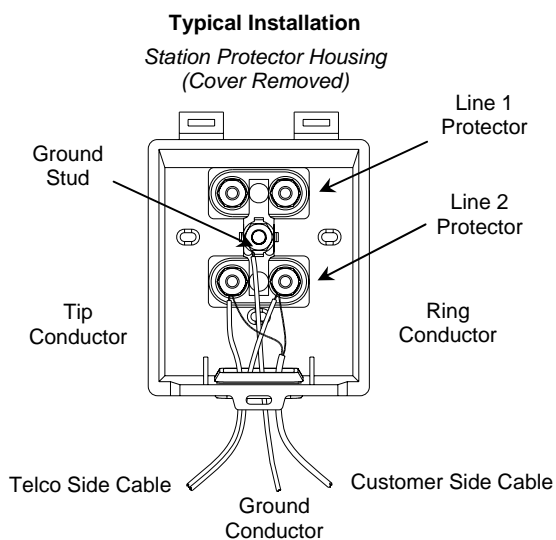

Figure 2
2. Ground the module using a No. 6 AWG solid copper insulated ground wire. Connect one end of the ground conductor to the appropriate ground stud and the other end to an appropriate ground source (Figure 2).